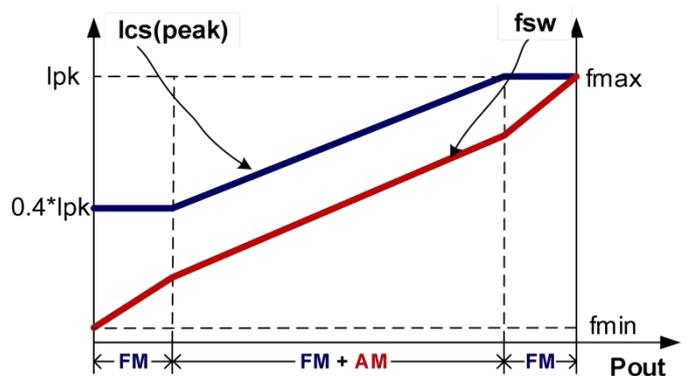

Fig 4
To meet the tight requirement of averaged system efficiency and no-load power consumption, a hybrid of frequency modulation (FM) and amplitude modulation (AM) is adopted in DP231X which is shown in the Fig 4.